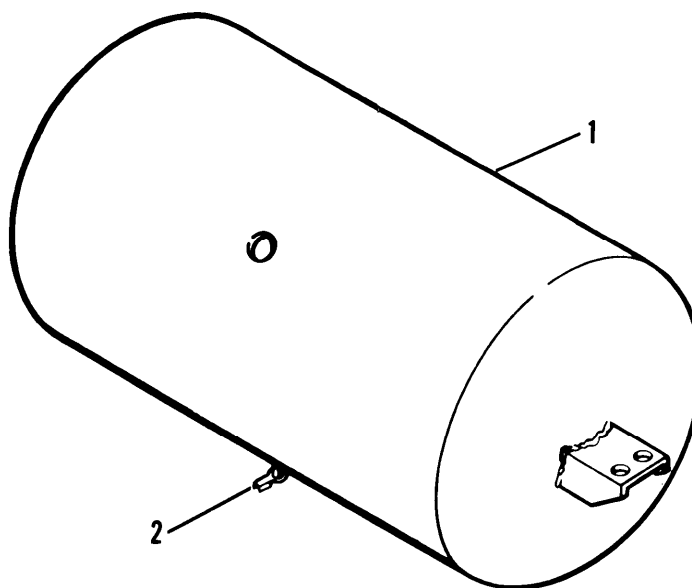

Figure 4-26. Air Reservoir
k. Air Reservoirs. The two air reservoirs (1, fig. 4-26) are attached to the frame. The reservoirs provide a supply of air through the emergency relay valve and the multi-function valve for applying the brakes. The air reservoirs are equipped with drain cocks (2) for draining accumulations of moisture and for releasing air pressure in the semitrailer brake system.